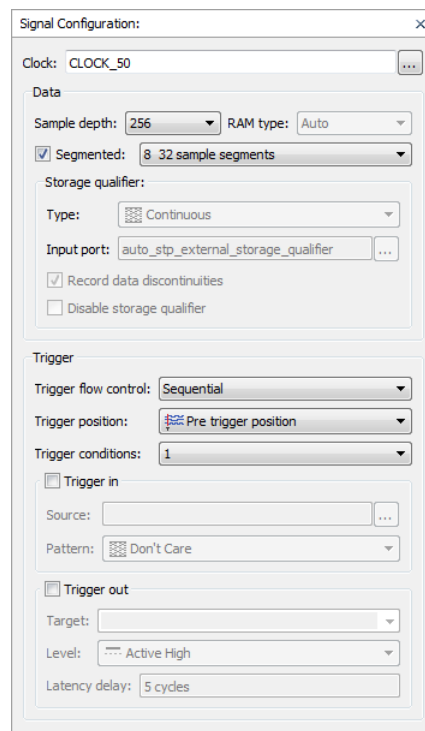

Figure 23. Select Segmented buffer acquisition mode with 8 32 sample segments.
3. In the Signal Configuration pane of the SignalTap II window, in the Data section of the pane check **Segmented**. In the dropdown menu beside Segmented, select **8 32 sample segments**. This will result in a pane that looks like Figure 23.